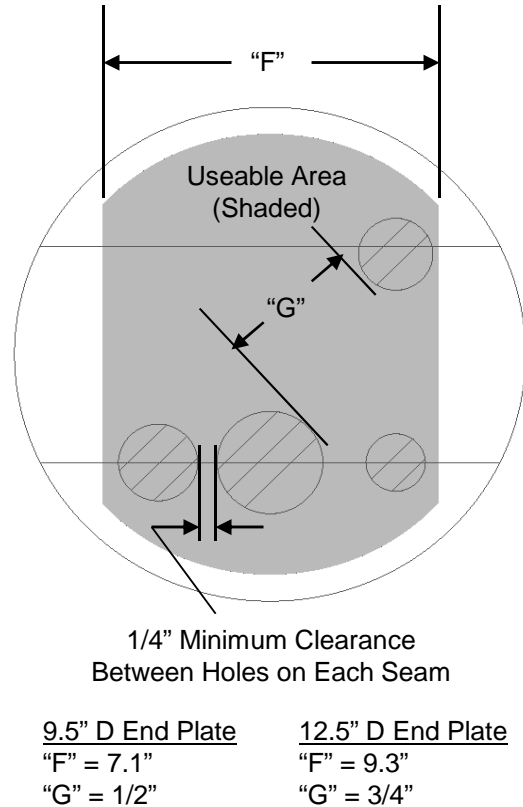

Figure 13
10.2 Determine tube cable entry points and hole locations on End Plate. See Fig. 13 for PLP recommended hole clearance dimensions.